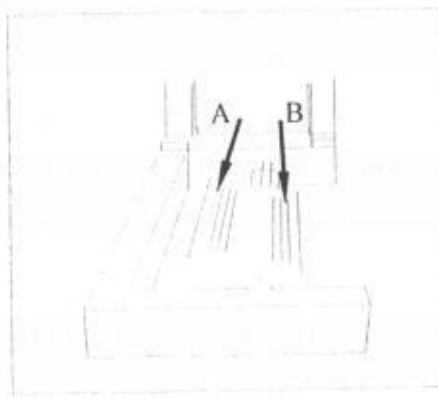

Fig 1
3.1 start pedal (fig.1)
First of all, switch on the main switch of the machine to check if the rotation of the motor conformable to the red allow on the belt cover. If the direction is opposite, switch in the other way round. Then operate the start pedal in three different movements. (Fig.1)